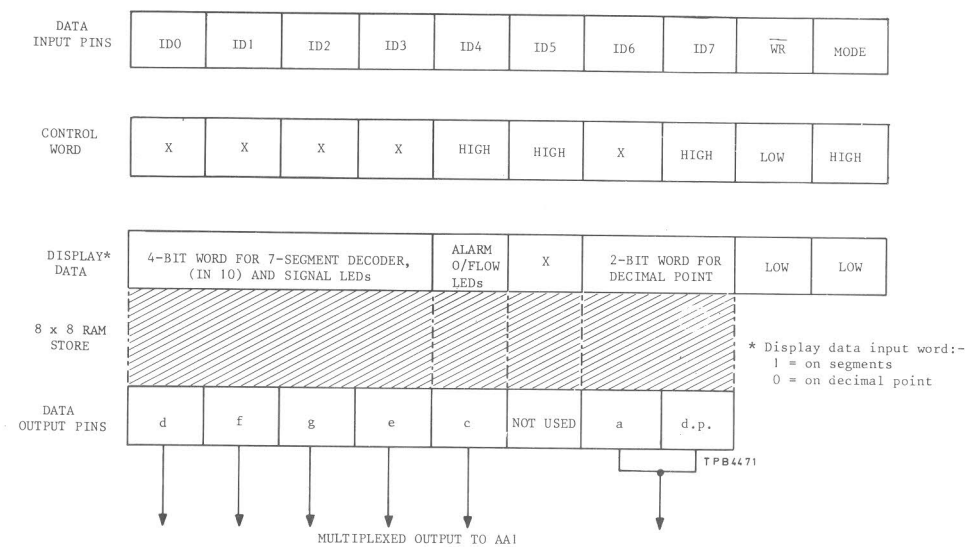

Fig. 9a AA12/IC9 display data and control word
63. Display driver multiplexer IC9, provides a multiplexed drive to the Display board AA1 via SKB and a 25-way flexible wire connector. IC9 is connected to the data bus via 8-data lines ID0 - ID7, with 2 lines from the control bus to \overline{WR} and MODE at pins 8 and 9 respectively. Before data from the processor can be displayed, a 4-bit control word is applied to inputs ID4 to ID7 when \overline{WR} is low and MODE is high. The control word indicates to the multiplexer that display data will follow to be stored in the 8 x 8 RAM store in IC9. For this particular design configuration the control word is required to be high at ID4, ID5 and ID7 (ID6 may be either). Once the control word has been read by IC9 a 7-bit display data word is written into the 8 x 8 RAM contained in IC9 when \overline{WR} and MODE are both low. The display data is updated and read eight times into the RAM locations where it is stored before being multiplexed out to the display. Fig. 9a shows the control word, information contained in the display data word and the relationship between the